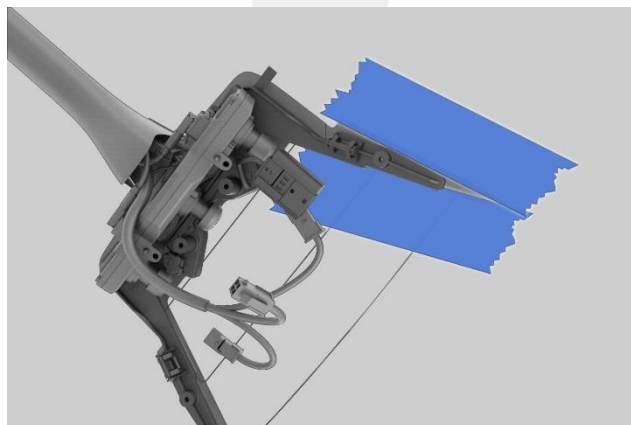

Figure 5 (RH shown, LH similar)
7. Apply masking tape to both edges of the affected side of the triple camera windshield bracket (Figure 5).
11. Remove the masking tape from the windshield (Figure 5). Wipe away any excess urethane.